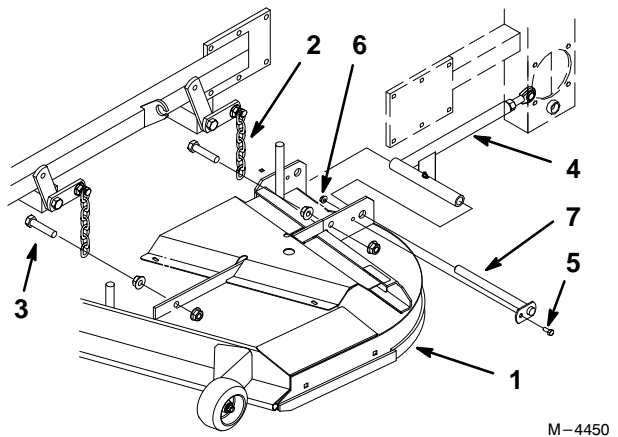

Figure 2
2. Remove the four bolts at the bottom of chains that are attached to deck (Fig. 2).
3. Remove the nuts and bolts holding pins in the push arm (Fig. 2).
4. Remove pins (Fig. 2).
5. Raise height of cut lever and slide deck out (Fig. 2).